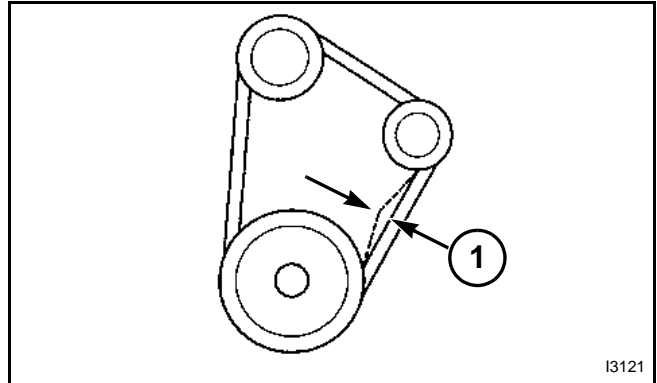

FIG. 3
FIG. 3: Correct fan belt tension helps to insure adequate coolant flow through cylinder block and radiator. Belt is correctly tensioned when belt deflection is approximately 12 mm (0.50 in) as shown at (1) when thumb pressure is exerted at center of belt span.